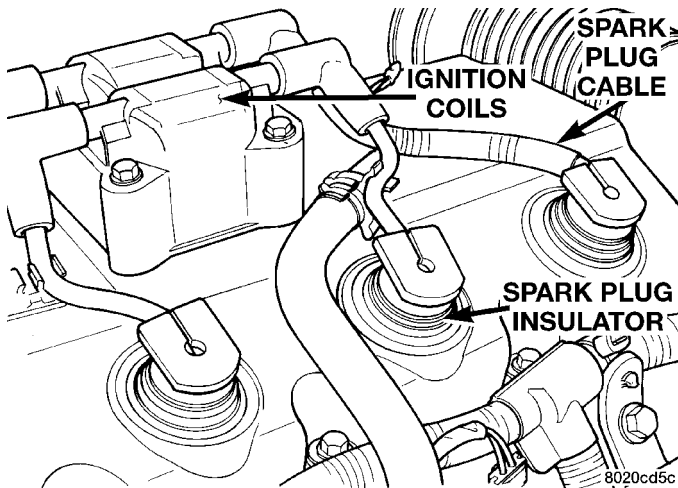

Fig. 20 Ignition Coil Pack
(2) Remove ignition coil pack (Fig. 20).
(3) Remove the cylinder head cover bolts.
(4) Remove cylinder head cover from cylinder head.